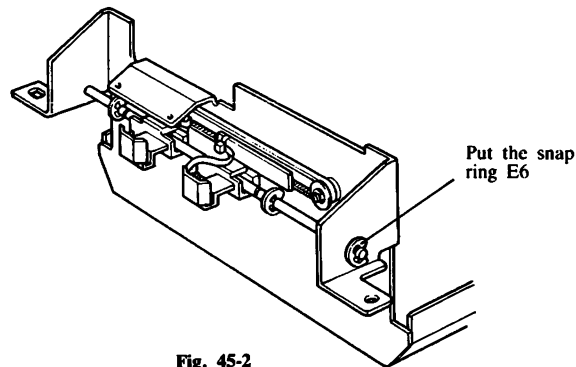

Fig. 45-2
- (2) Pass the left end of the Sensor guide bar through the hole for it on the left side of the frame far enough, then return to the right to pass the right end of the bar through the hole for it. Then put the snap ring E6 on to the bar. (Refer to Fig. 45-2)